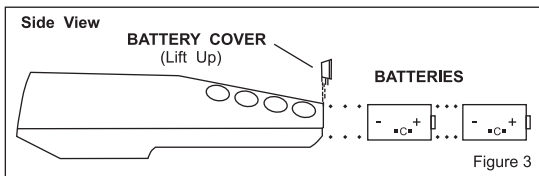

Figure 3
1. See Figure 3. Using a thumb to push open the battery door located at the bottom of the detector; then to remove the door.